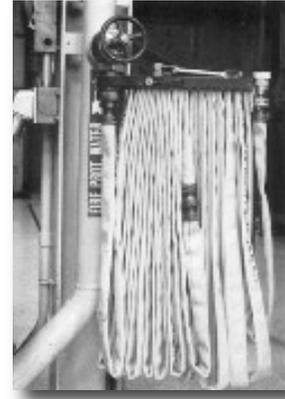

FIGURE A.4.3 Typical Standpipe and Fire Hose Rack Arrangement. (Courtesy of National Aeronautics and Space Administration)
A.4.3 – Figure A.4.3 shows a Class II standpipe system with 1½-in. (38-mm) occupant-use hose